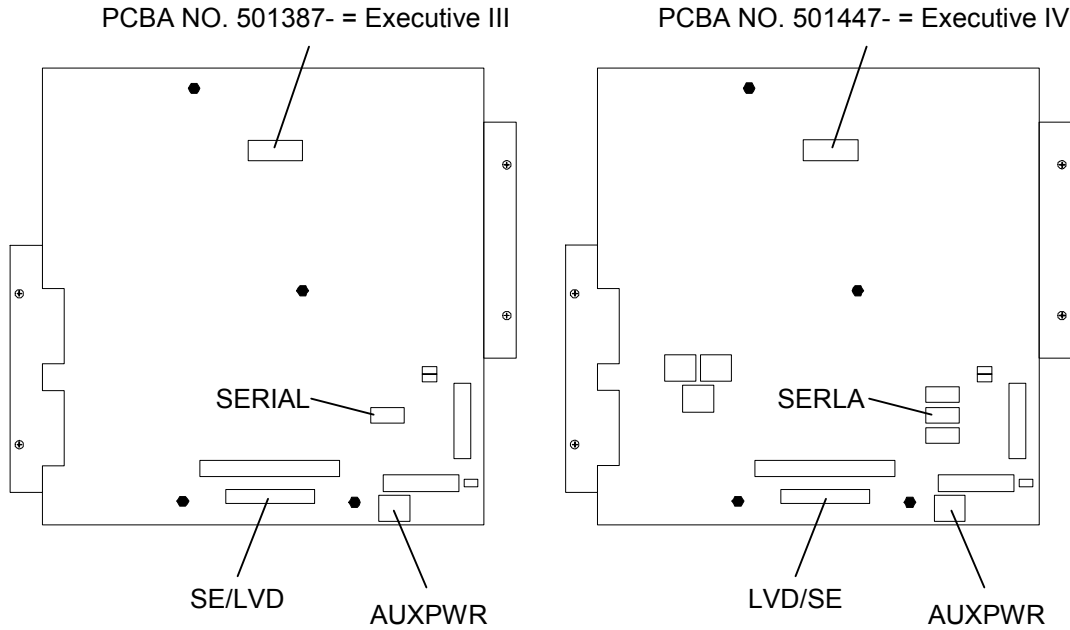

Figure 4-8 Executive PCBA Identification
9. The FCO's SERIAL ribbon cable will connect to differently named connectors on the Executive PCBA depending on which version of Executive PCBA is installed in the library. Executive III PCBA's will have part number 501387- printed on them and Executive IV boards will have part number 501447- on them. Refer to Figure 4-8 to determine which version of Executive PCBA the FCO is being connected to.